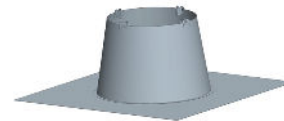

Figure 63 - Flashing
The roof Flashing (F) is used in conjunction with Storm Collar (SC) for weatherization on a flat roof. See **Figure 63**.